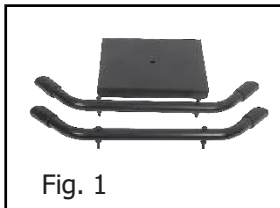

Fig. 1
1. Remove the 4 pcs screws from the base tube. (Fig.1 .2)